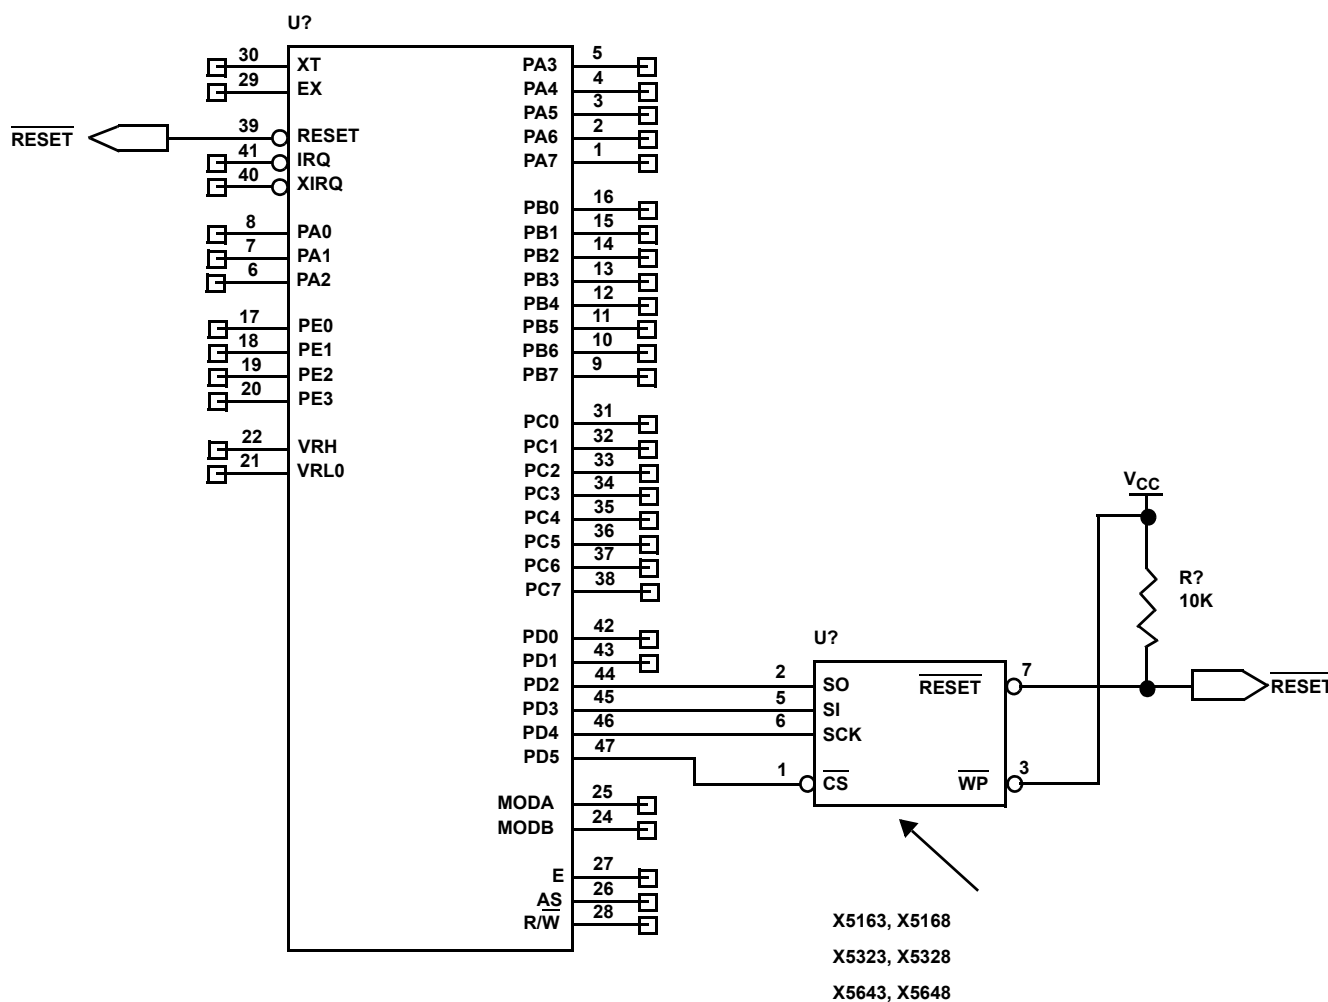

FIGURE 1. INTERFACING THE INTERSIL CPU SUPERVISORS TO THE 68HC11 MICROCONTROLLER USING THE SPI PORT
The following code demonstrates how Intersil's CPU Supervisors with EEPROM can be interfaced to the 68HC11 microcontroller when connected as shown in Figure 1. The circuit uses the 68HC11's built-in SPI port with the PD4/SCK pin connected to the serial clock (SCK), the PD3/MOSI pin connected to serial data in (SI), the PD2/MISO pin connected to serial data out (SO), and the PD5/PCS0/CS pin connected to chip select ($\overline{CS}$). The SPI interface of the CPU Supervisors operate at 2MHz, so the 68HC11 can operate the SPI port at the maximum speed. This code allows the